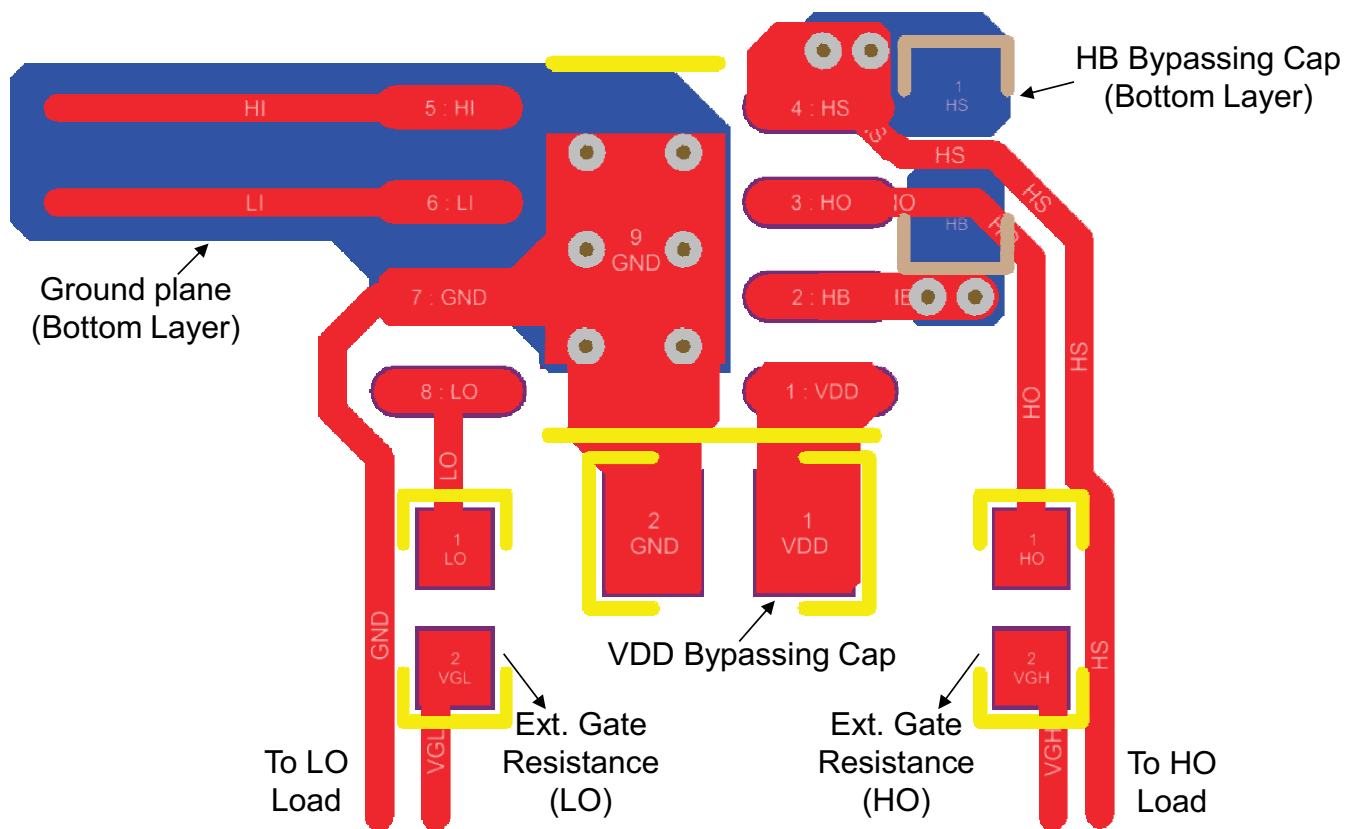

Figure 9-1. UCC27211A-Q1 PCB Layout Example
- Locate the  $V_{DD} - V_{SS}$  and  $V_{HB} - V_{HS}$  (bootstrap) capacitors as close as possible to the device (see Figure 9-1).